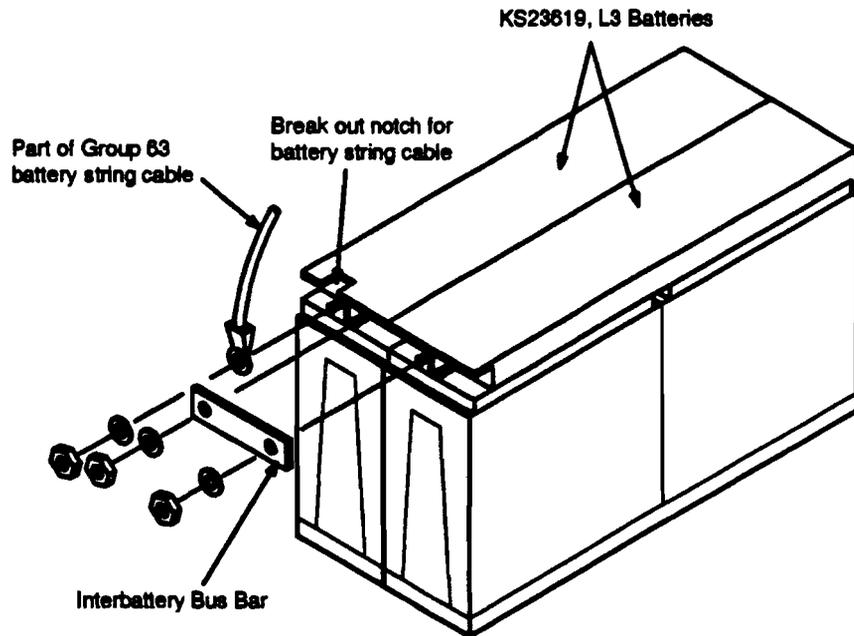

Figure 2 — Battery string connections for Lineage 2000 VR Series batteries
9. Coat inter-battery bus bars with NO-OXid grease and install on the batteries as shown in Figure 2. Install 1/4 inch lock washer and nut on battery post. Using insulated torque wrench with the socket, tighten nut to 55 in-lbs torque, Repeat for each battery post until all 12 batteries are connected together.
10. Cut a notch in the cover of the battery No. 1 (above "-" battery post) and battery No. 12 (above "+" battery post) (see Figure 2). This is required to install the battery string cable.
11. Connect the battery string cable to battery No. 1 by terminating the lug marked **BAT 1 (-)** to the "-" (negative) battery post of the first battery in the string (Figure 2). Connect the battery string cable to battery No. 12 by terminating the lug marked **BAT 12 (+)** to the "+" (positive) battery post of the 12th battery as shown in Figure 2. Install the lock washer and nut on the battery posts. Use insulated torque wrench to tighten the nuts to 55 in-lbs torque.